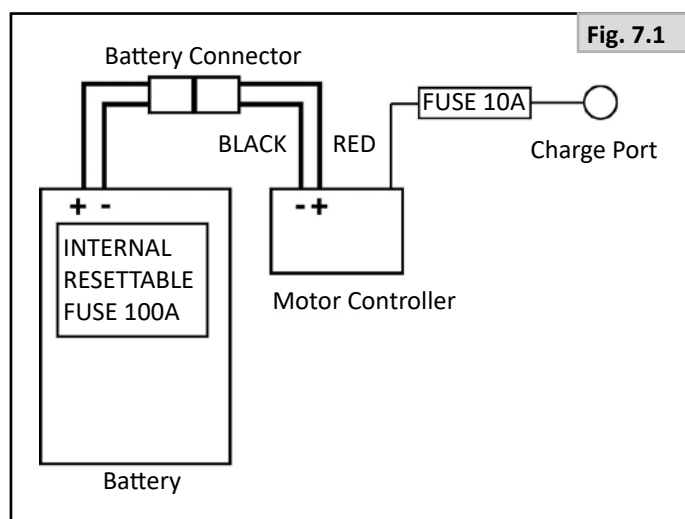

Fig. 7.1
In the event of a short circuit there are several safety systems built into your scooter to safeguard your electrical circuits, (Fig. 7.1).
- Connect the battery charger round output plug to the charging socket (see Fig. 7.1).